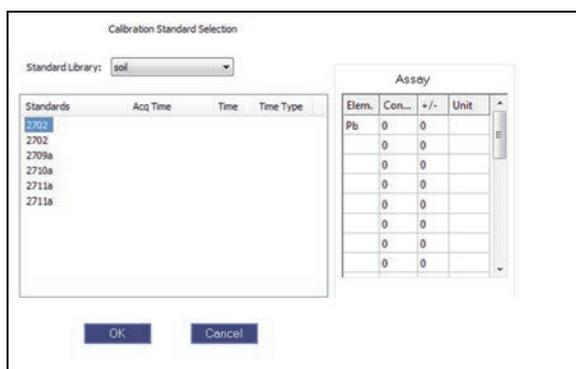

Figure 6-10 Calibration Standard Selection pane
8. On the **Calibration Standard Selection** pane, select a library in the **Standard Library** list (see Figure 6-10 on page 88).